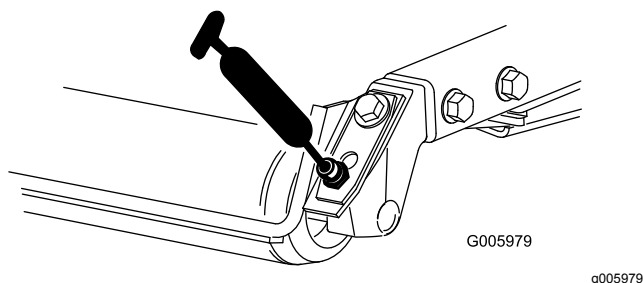

Figure 80
- Rear roller bearings (2 per cutting unit) as shown in Figure 80